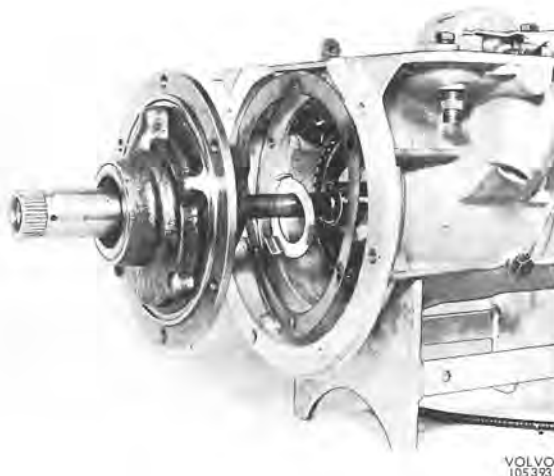

Fig. 4-117. Installation sequence, front pump assembly thrust washer and gasket
20. Stick on the thrust washer with vaseline and then fit the pump with a new gasket on the transmission case, see Fig. 4-117. Re-check the end float in accordance with point 21, page 34.